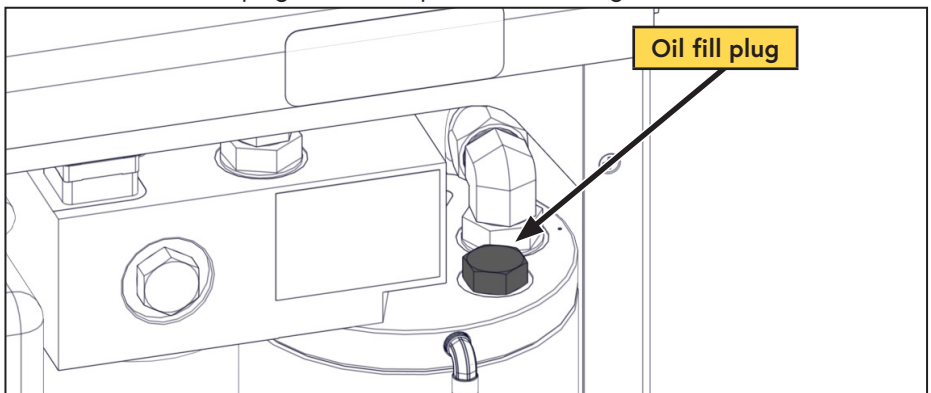

Figure 4 — Add compressor oil
- Remove the oil fill plug from the top of the AOST (Figure 4).